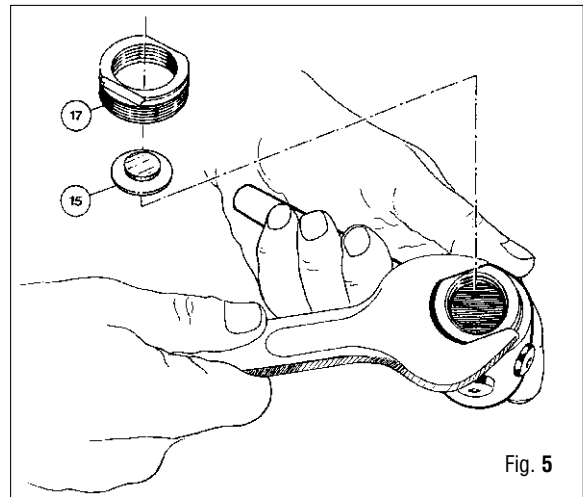

Fig. 5
9. Unscrew retaining nut (17) with wrench B-16 and remove spring base plate (15). (Fig. 5)
10. Introduce compressed air (less than 7 bar - 101.5 psi) through a low pressure port (3/8"), then remove diaphragm (14) and poppet button (13).